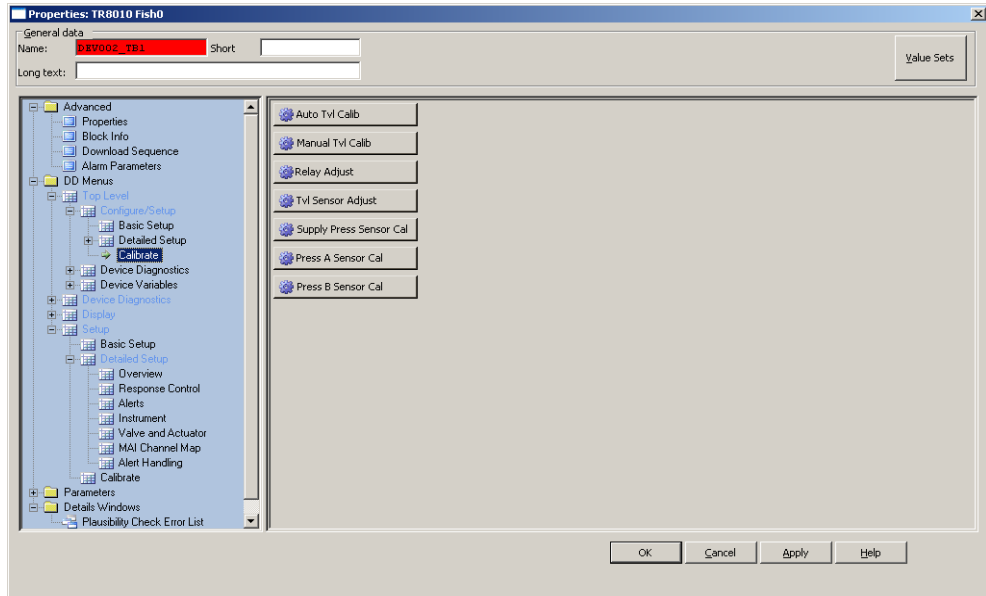

Figure 176. Block Properties Dialog
- a. Open the Properties dialog of the function block by double clicking the block in the FF Application object or in the H1 device object (refer to Figure 176).